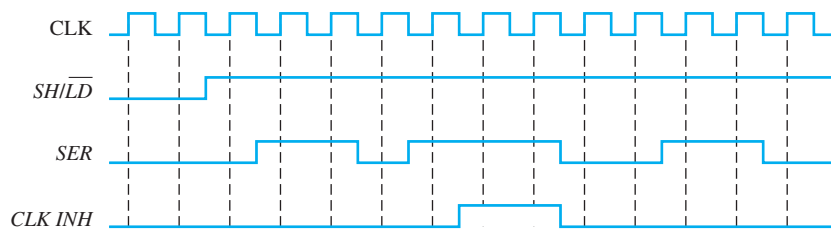

FIGURE 8-55
15. The waveforms in Figure 8-55 are applied to a 74HC165 shift register. The parallel inputs are all 0. Determine the Q_7 waveform.